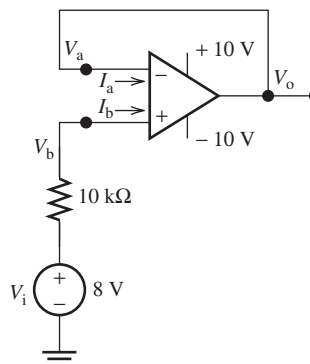

FIGURE P8.71 Circuit for Problem 8.71.
- 8.71** (A)* Find the output voltage for the circuit shown in Figure P8.71.